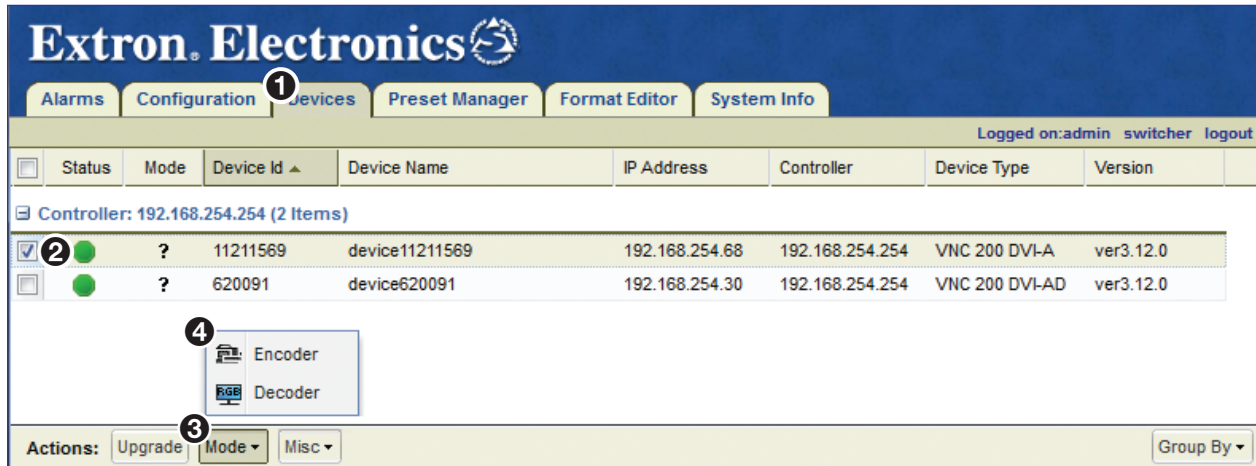

Figure 7. Devices Page – Mode Selection Menu
1. If necessary, log in, then click the **Devices** tab (see figure 7, ❶). The Devices page opens.
1. Log in to the controller, then click the **Devices** tab (see figure 7, ❶). The Devices page opens.
1. Click the **Devices** tab (see figure 7, ① on page 5). The Devices page opens.
2. Select a decoder (see figure 7, ②). At the bottom of the page, several menus are now available (see figure 10).